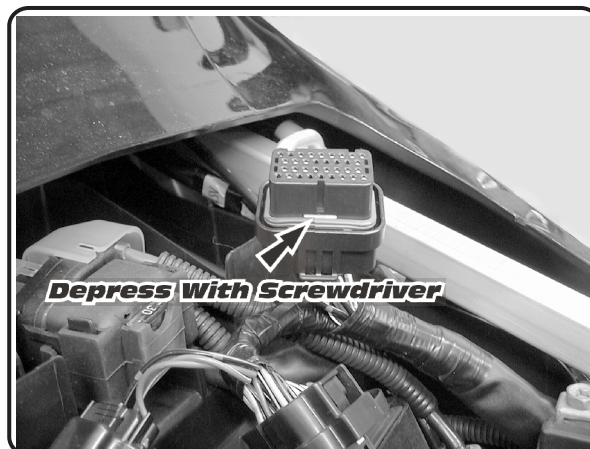

Fig. 10
- 2 Depress rectangular white plastic locking plate on the 34 pin ECU connector to unlock connector pins. (See Fig. 10)